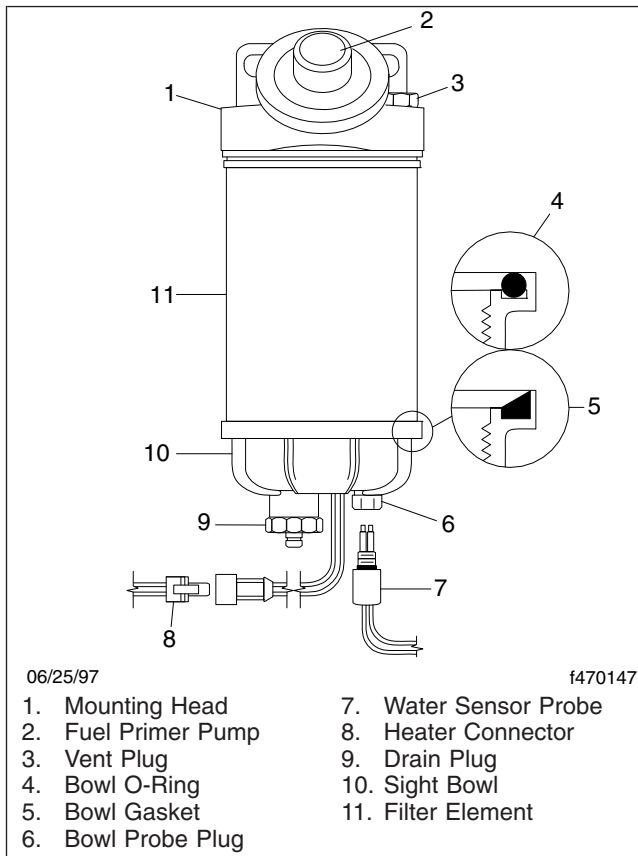

Fig. 1, Alliance Fuel/Water Separator
1. Drain off some fuel by loosening the vent plug and opening the drain valve. See Fig. 1.